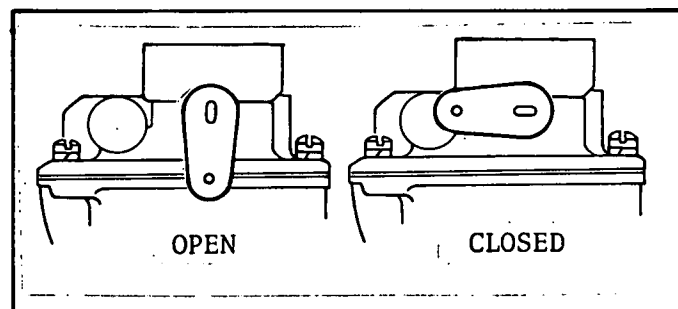

FIGURE 2 CHOKE LEVER POSITIONS
1. This engine is equipped with a cable-controlled manual choke. Refer to Figure 2 for Open and Closed positions of the choke lever.